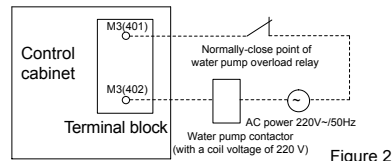

Figure 2
- For the terminal blocks in figures 2 and 3, M3(401) and M3(402) indicate the output contacts for pump control on the air conditioning side; M3(90) and M3(91) indicate the output contacts for pump control on the heat recovery side.